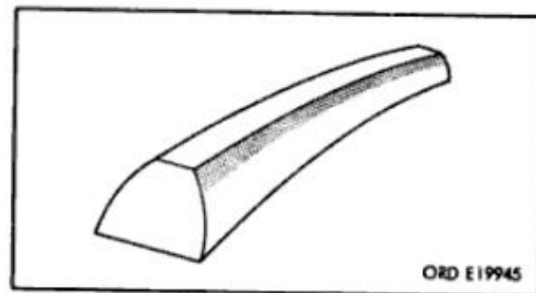

Figure 105. High narrow tooth contact
(5) **High narrow tooth contact.** Gear contact centered too high on tooth (fig. 105) will result in galling, rolling over top edge